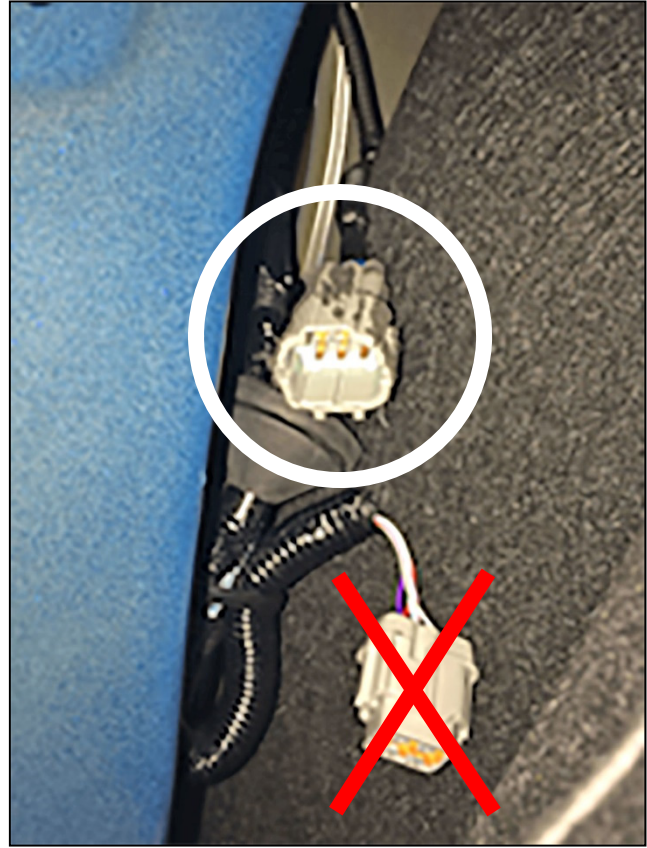

Figure 15
- Perform repairs to the circled connector, not the one with the red "X" (see Figure 15).